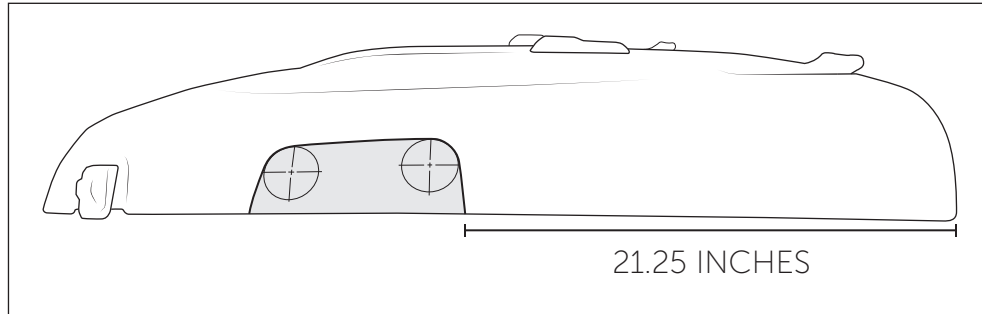

Figure 1
1. It is necessary to modify the factory hood to fit the snorkel. Cut out and place the trim template provided on the last page (also available at aev-conversions.com) onto the left side of the hood (fig. 1). Place masking tape on the bottom 6" of the hood to protect the paint and provide a surface for marking the template outline. Measure 21.25" from rear edge of the hood to back edge of cutout (fig. 1).